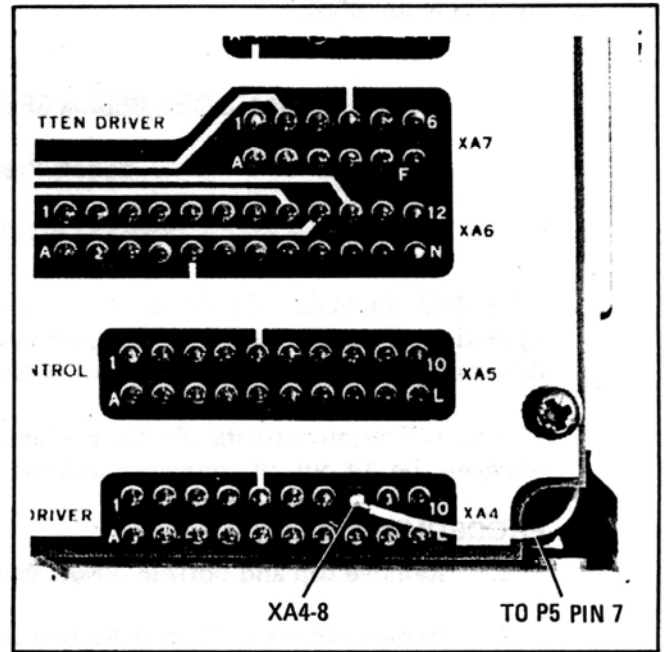

Figure 7-22. Connection to A10XA4-8
4. Connect an insulated 4-inch wire between A10XA4 pin 8 (on interconnect board) and rear panel Preselector connector P5 pin 7. Refer to Figure 7-22.